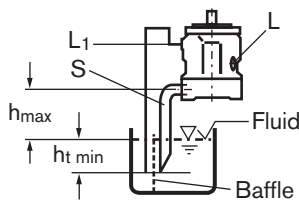

Fig. 2
b) If the min. fluid level is below the pump mounting surface: pipe port "L" and "S" acc. to fig. 2, close port "L" (compare item limiting conditions)
Before installation fill pump housing while keeping it in a horizontal position. For mounting above the tank see fig. 2.